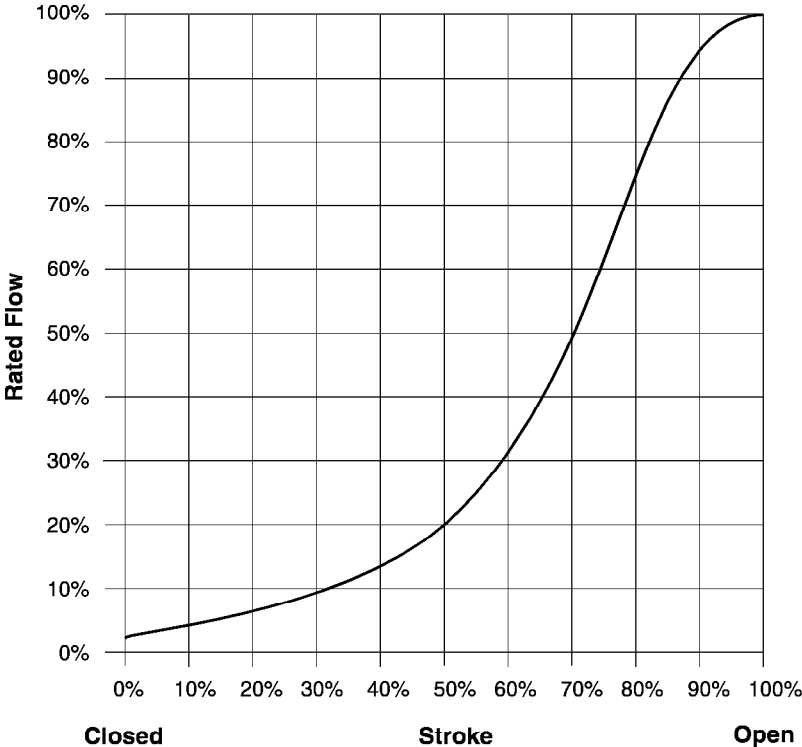

Figure-1 Typical Modified Equal Percentage Flow Characteristics.
**Two-Way Valves:** All valves have modified equal percentage flow characteristics. That is, for equal increments of valve stem stroke, the change in flow rate with respect to valve stroke may be expressed as a constant percent of the flow rate at the time of the change. The change of flow rate with respect to valve stroke is relatively small when the valve plug is near the valve seat and relatively high when the valve plug is nearly wide open. See Figure-1 for typical modified equal percentage flow characteristics of VB-72XX series valves.